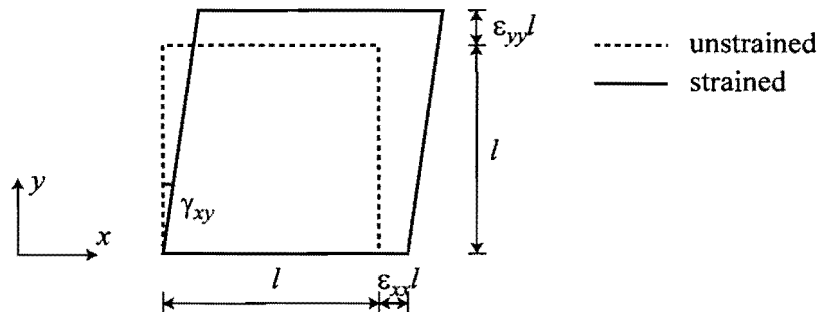

Figure 5
8. An orthogonal grid with line spacing, l , is etched onto the surface of a body that is then subjected to a uniform strain ϵ_{xx} , ϵ_{yy} , γ_{xy} . Figure 5 shows one element of the grid before and after the strain is imposed: the distortion has been greatly magnified, and the unstrained and strained grids have been superposed onto one another. Assuming that the strains are small (and remembering *displacement diagrams*), either by projecting the diagonal of the strained grid onto its original direction or by calculating the length of the diagonal of the strained grid, show that the normal strain in the $+45^\circ$ direction is given by